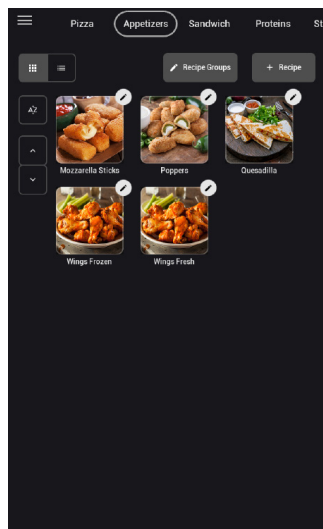

Figure 28: Add Recipe to Group
3. Touch the “+Recipe” button (Figure 28, above).